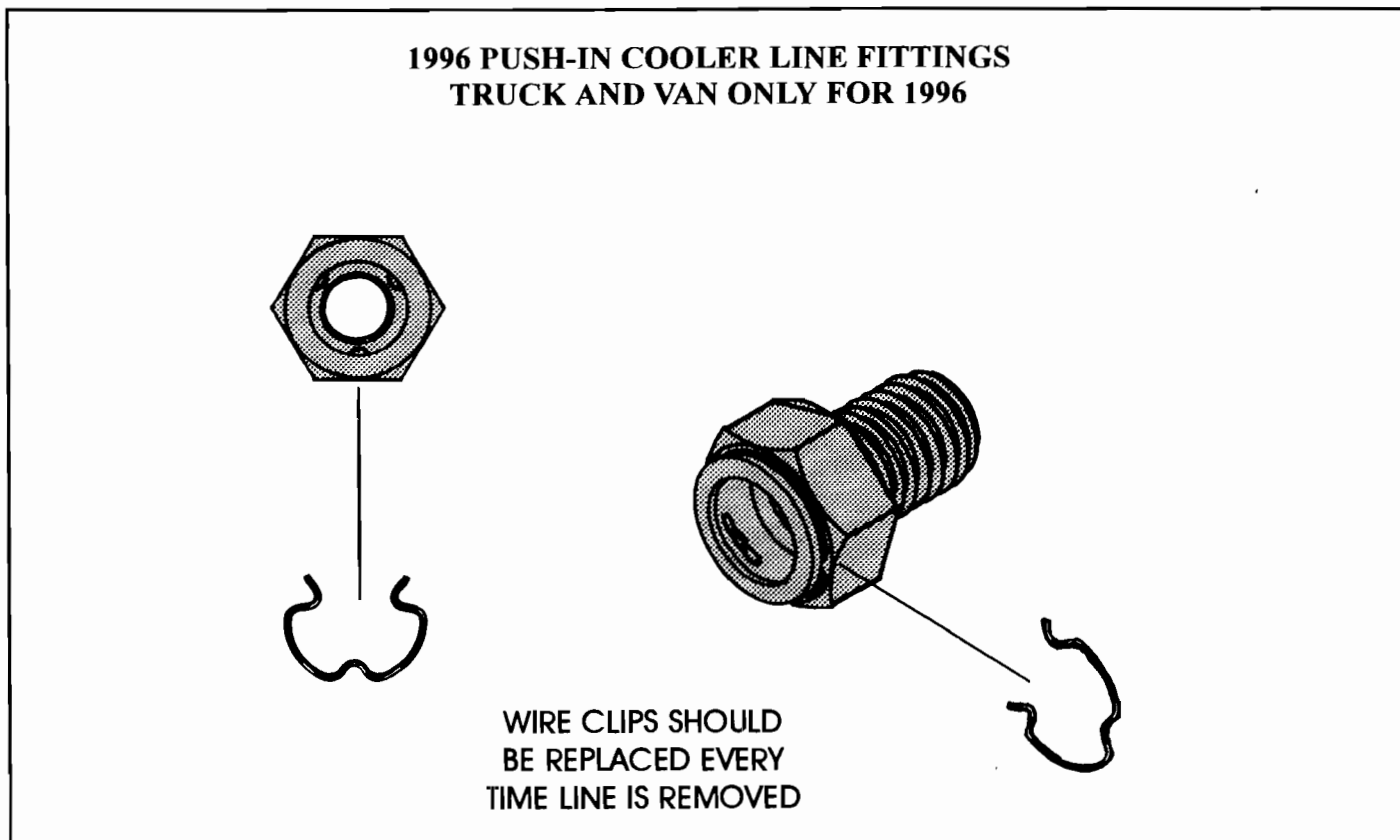

Figure 21
**CHANGE:** Beginning at the start of production for 1996 models, all "C" and "K" Trucks and "G" Vans were built with a new design "Push-In" cooler line fittings for the transmission, as shown in Figure 21.